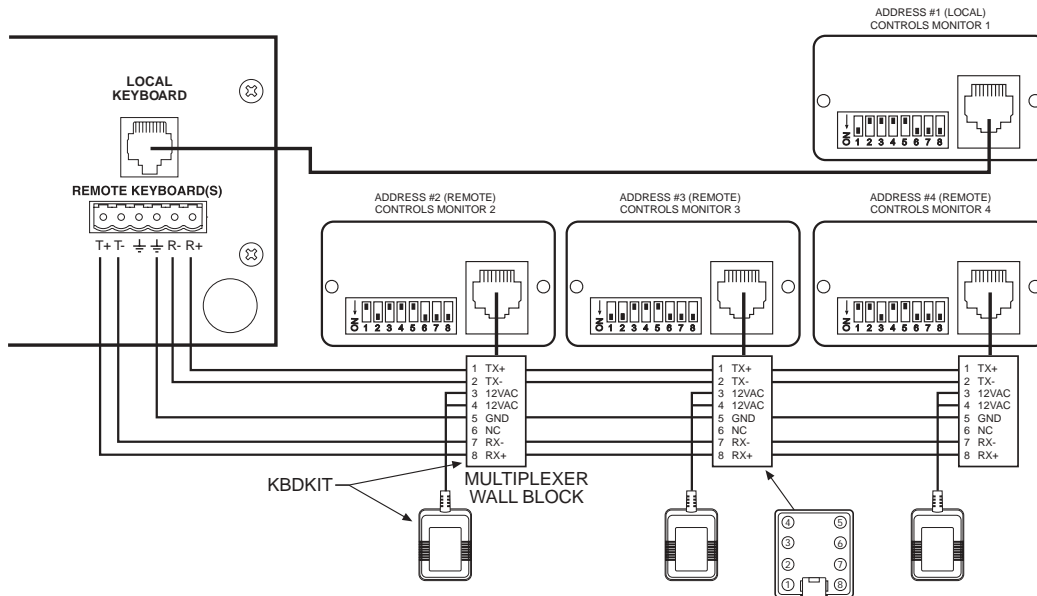

Figure 13. Connecting KBD4000/KBD4002 Keyboards to the Server
2. Wire the keyboards as shown in Figure 13. To connect KBD4000V keyboards, refer to the KBD4000V manual.